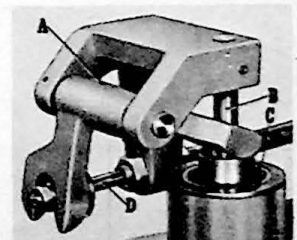
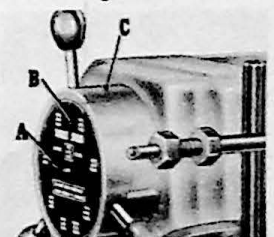

Figure 3
Figure 4
1. Oil hole in fork (A, fig. 3) — oil once a week with S.A.E. No. 20 oil.
2. Oil post (B) and rod (D) occasionally with S.A.E. No. 20 oil.
3. *Do not oil pulley bearings (C).*
4. Once a year, clean and grease (medium cup grease) cam in handwheel (C, fig. 4). To disassemble — loosen screw (A) and remove plate (B); remove handwheel by taking out center bolt.